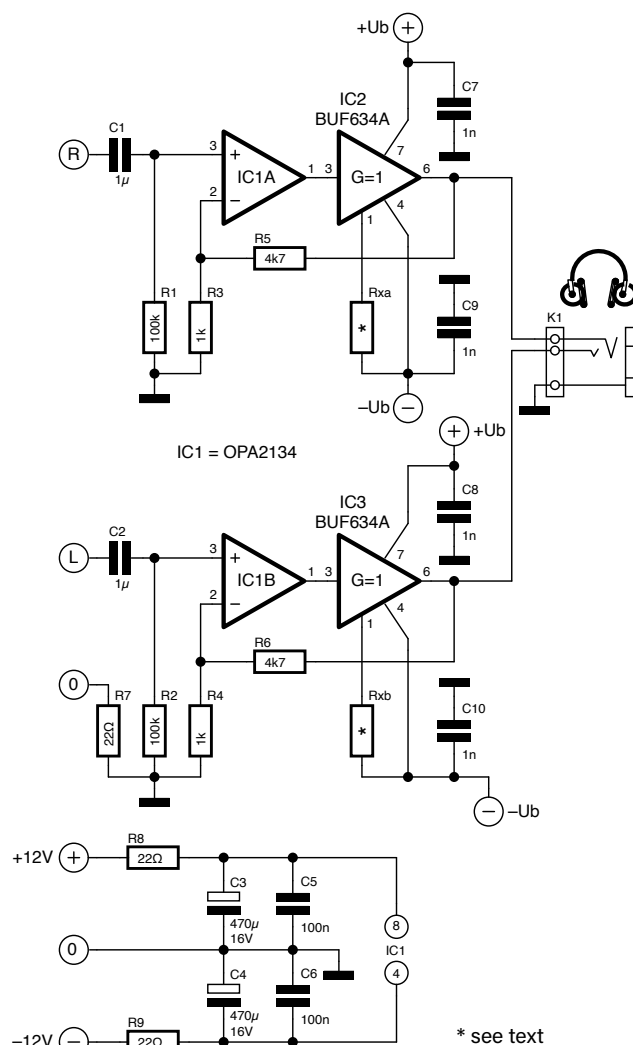
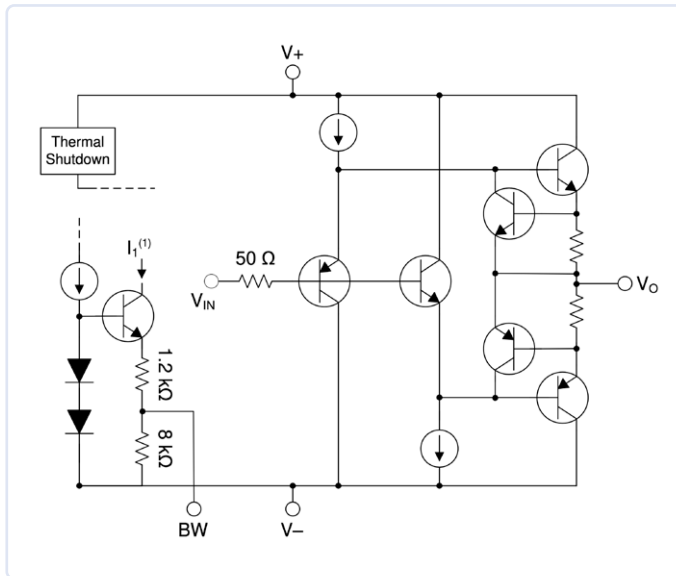

Figure 1: The circuitry of the complete headphone amplifier relies on integrated semiconductors.
Figure 2: The principle circuit of the BUF634A integrated push-pull output stage. Source: [2].
**Figure 1** shows the complete stereo circuit. A dual audio opamp of type OPA2134 [1] forms the two input stages and is responsible for the voltage amplification. Two BUF634As handle the amplification of current. Its basic internal circuit can be admired in **Figure 2**.
The special feature of this integrated push-pull output stage is its very high bandwidth, which can be set between 35 and 210 MHz via the current through Pin 1. If resistor Rx in Figure 1 is omitted (Pin 1 = open), the bandwidth is 35 MHz, and the quiescent current is only about 1.5 mA. The maximum bandwidth results if a value of 0  $\Omega$  is selected for Rx. In this case, the quiescent current rises to a tolerable 8.5 mA.